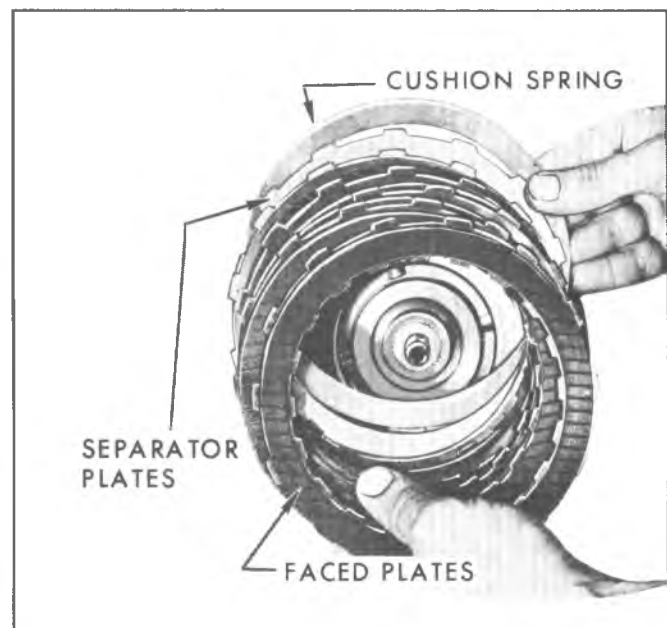

Fig. 73N--Removing Forward Clutch, Clutch Separator and Face Plates and Cushion Spring
3. Remove four face drive plates, four steel driven plates and cushion spring (fig. 73N).